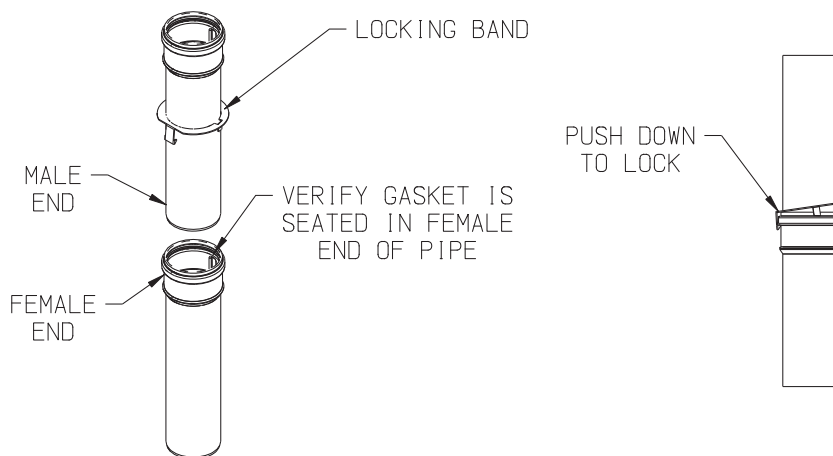

FIGURE 7.26: POLYPRO LOCKING BAND INSTALLATION
- c. For each joint, verify that the gasket is evenly seated in the bell (female) end of the pipe. Lubricate this gasket with water. Slide a locking band over the male end of the pipe to be joined as shown in Figure 7.26 . Push the male end of the next section of pipe into the bell until it bottoms out, then back out 1/4-5/8" to provide room for thermal expansion. Push barb on locking band over the bell end of the first section of pipe as shown in Figure 7.26.